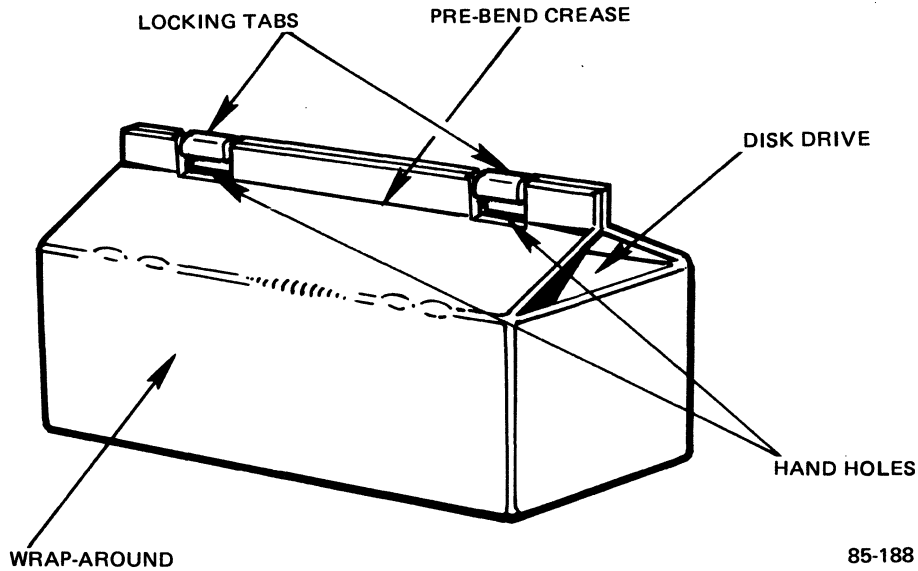

Figure 4-4. Closing the Wraparound
8. Fold up the edges of the wraparound and lock the top by inserting the locking tabs into the slots on the edge of the opposite flap (see Figure 4-4).